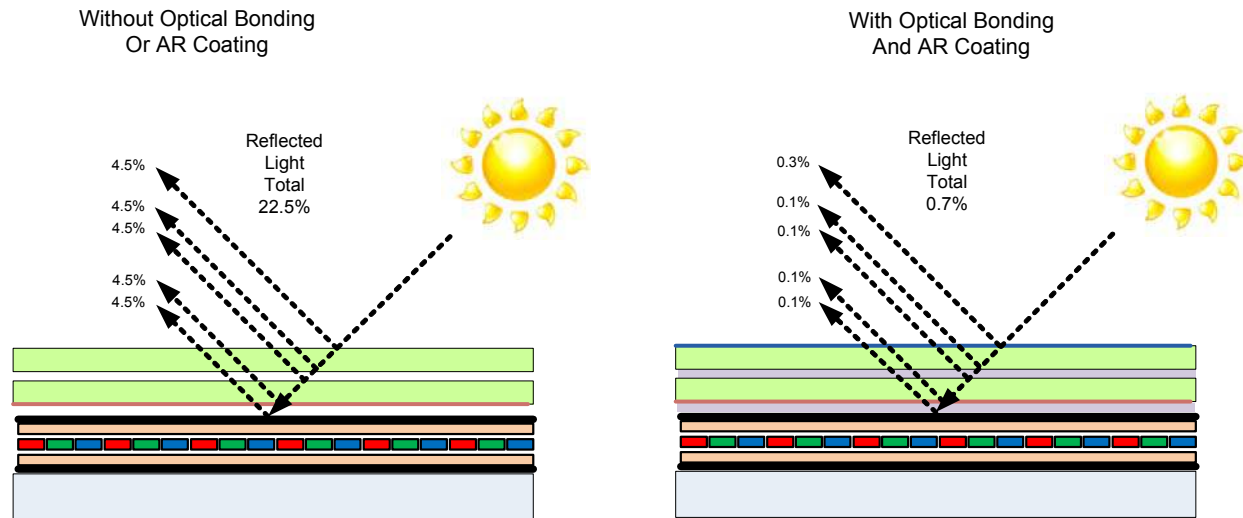

Figure 3 – Comparison of Reflections with and without Optical Bonding
The second layer of glass is coated with an Oleophobic Anti-Reflective (AR) coating which matches the index of refraction of air to eliminate surface reflections. These layers of coated glass are bonded together with an index matching optical adhesive to eliminate internal reflections caused by the index of refraction mismatch between the soda lime glass and air. This eliminates over 95% of unwanted glare from the screen. Please see Figure 3 below for more details.